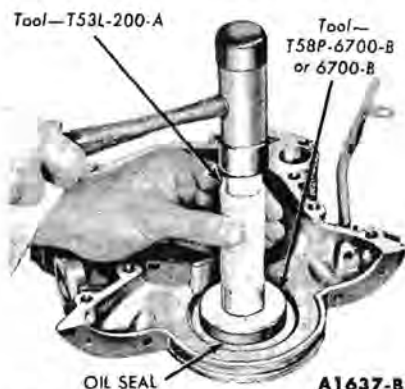

FIG. 34—Crankshaft Front Oil Seal Replacement
2. Coat a new seal with grease, then install the seal in the cover (Fig. 34). Drive the seal in until it is fully seated in the recess. Check the seal after installation to be sure the spring is properly positioned in the seal.